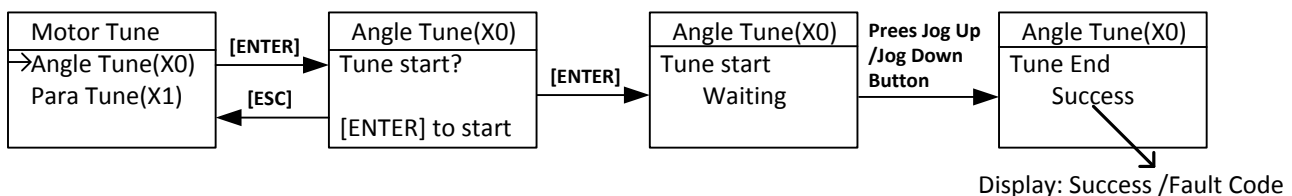

FIGURE 7.4 MOTOR INITIAL ANGLE STATIC TUNING
Set AutoTuneModeSel FC-13 (FX-20) to “1” on digital operator (0: rotation tuning, 1: static tuning), perform motor initial angle tuning according to the following procedures shown in Fig.7.4:
4. Enter elevator hoistway self-learning menu through digital operator, follow the learning procedures shown below in Figure 7.4